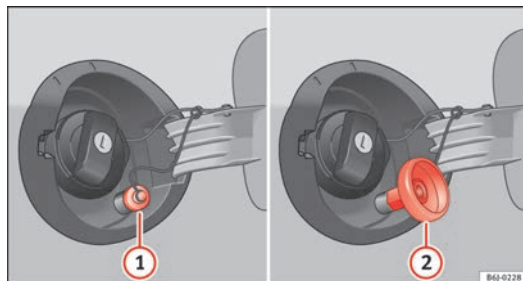

Fig. 119 Fuel tank open with LPG filler neck and adapter.
- Unscrew the cap of the gas filler neck ⇒ Fig. 119 ①.
- Screw the required adapter ⇒ Fig. 119 ② on the gas filler neck ①.
- Unscrew the adapter ⇒ Fig. 119 ②.
- Screw on the cap of the gas filler neck ⇒ Fig. 119 ①.